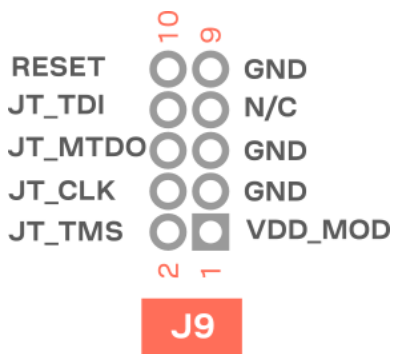

Figure 18: J9 JTAG debug connector pin layout
- An external debug unit can be attached to the J9 header connector for firmware programming and debug. J9 is implemented with a 2x5 header with 1.27 mm pitch. Figure 18 shows the pin layout of the connector.
The CPU JTAG signals can either be routed to the USB serial/JTAG controller or the external JTAG adapter GPIO pads using eFuses. The pin layout for this JTAG debug connector is shown in Figure 18.